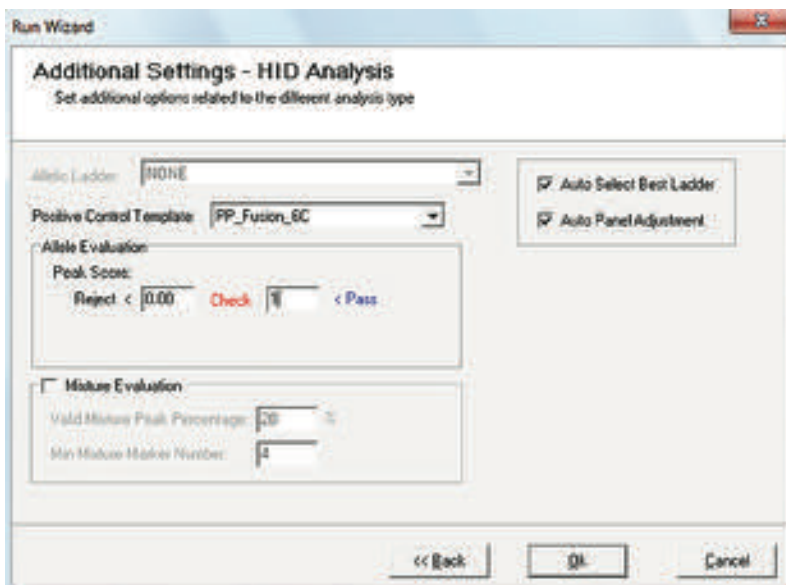

Figure 26. The Additional Settings window.
11. The Additional Settings window will appear. Select the settings shown in Figure 26. The values displayed in the Allele Evaluation dialogue box are defaults and will affect the quality values displayed in the plot settings. We recommend that you modify the values in these tabs to fit your laboratory's data analysis protocols. Select "OK".